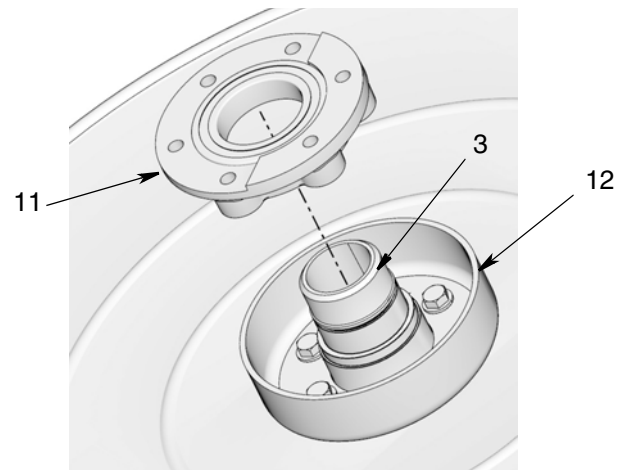

FIG. 28
- b. Slide bearing retainer assembly (11) off shaft (FIG. 28).